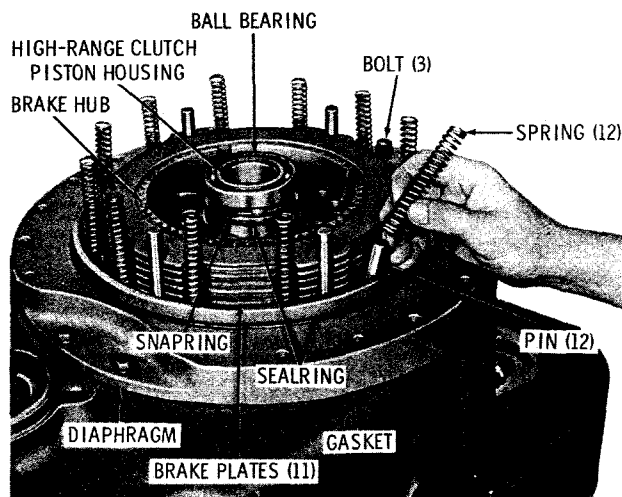

Fig. 5-22. Removing brake return springs and guide pins
(1) Remove 12 brake return springs and 12 guide pins from the recesses in the diaphragm (fig. 5-22). Remove the eleven brake plates from the brake hub. Remove the ball bearing from the hub of the high-range clutch piston housing.
(2) Remove the step-joint sealring from the brake hub (fig. 5-22). Remove the snapring that retains the brake hub, and remove the brake hub. Remove the sealring from the diaphragm.
(3) Remove the three bolts and lockwashers that retain the diaphragm on the transmission housing (fig. 5-22). Remove the diaphragm assembly and gasket. Refer to paragraph 6-15 for diaphragm assembly rebuild instructions.